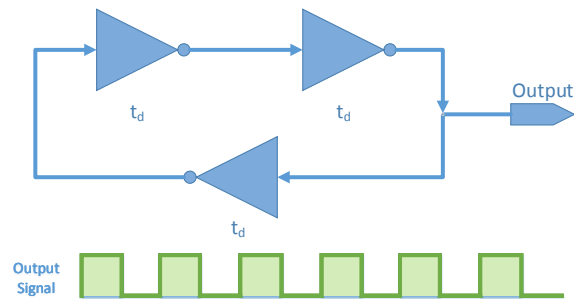

Figure 1: Simulation result for Listing 1, output changes 15ns after the change in input.
3. NOT gates are also used in ring oscillators, which is a kind of an oscillator, often used to generate clock signals. Ring oscillator is an oscillator which looks like a ring, and contains a chain of odd number of NOT gates. Ring oscillator's frequency depends on the delay of the NOT gate and number of gates used. A simple 3 NOT gate ring oscillator is shown in Fig. 1. Let the propagation delay of each of the gate in Fig. 1 be t_d , intuitively one can say that the delay between change of values at any point is $3t_d$. Use this information and calculate the time period of an n NOT gate ring oscillator, where n is an odd number.